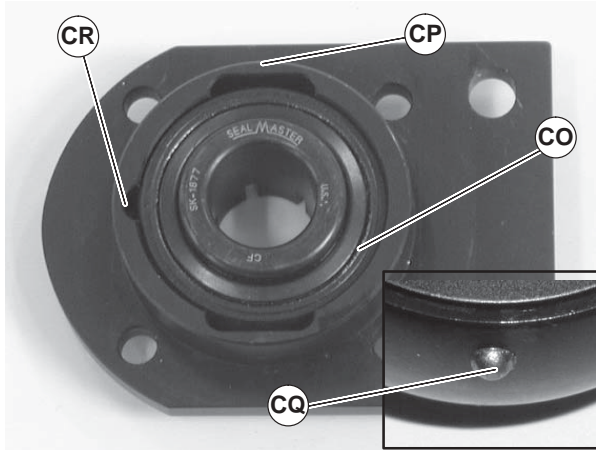

Figure 80
2. Insert bearing (Figure 80, item CO) into housing slot (CP). Locate anti-rotation nub (CQ) to align with slot (CR), and twist bearing into housing.